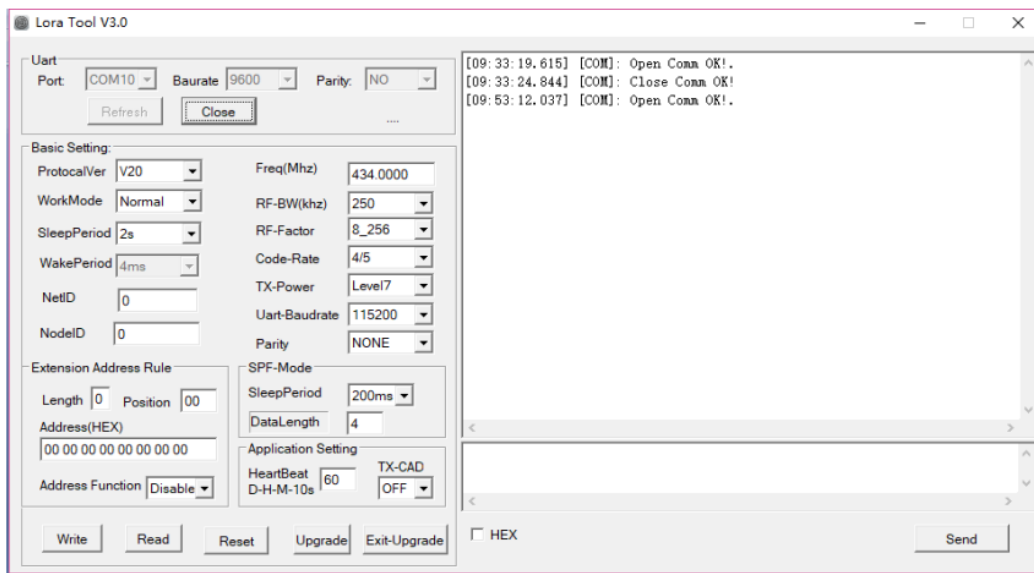

Figure 3: Interface of RF Tool
It is very simply for configuration. Based on different requirement, all options can be selected visually. It is shown in Table 2 and Figure 3.
- Setting through laptop. RF6610M port is UART/TTL. When RF6610M connecting with PC, users need to use USB adapter. AppconWireless provides USB adapter as accessory. The schematic is shown in Figure 3